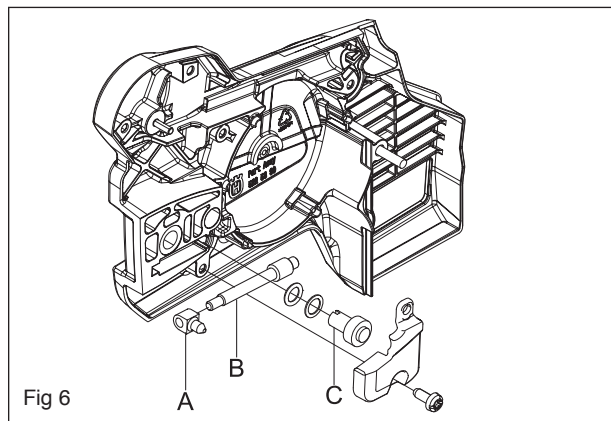

Fig 6
- If necessary, dismantle the chain adjuster and check the tension block (A), worm shaft (B) and worm shaft (C). See Figure 6. Lubricate all components with grease.